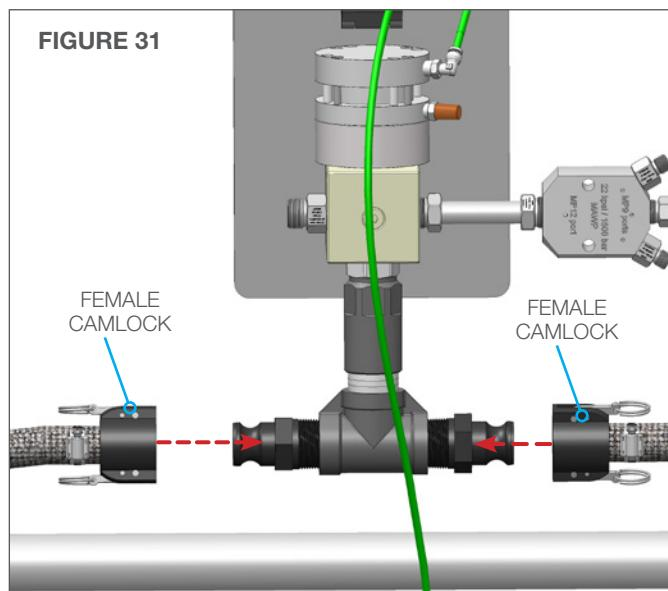

FIGURE 31
4. Connect the Female Camlocks on the Dump Hoses to the Male Camlocks on the Dump Valve. (**Figure 31**)